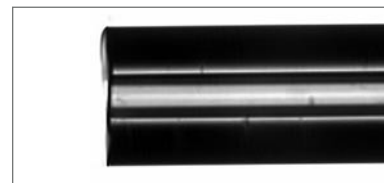

FIGURE 11 Typical cleave. Polyimide coating was removed after cleaving for clarity of image.
3. Pull gently on the tubing along its axis; it should easily separate at the point of contact. If it does not, repeat the procedure with a little more force. A typical cleave of 360 μm OD, 75 μm ID fused-silica tubing is shown in Figure 11. Residual surface irregularity is on average less than or equal to 10 μm .